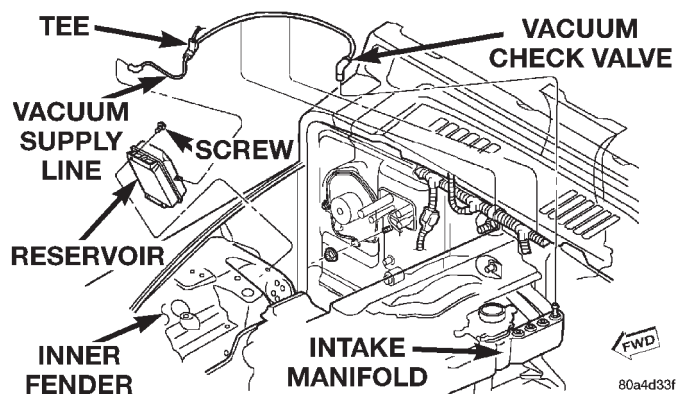

Fig. 35 Vacuum Reservoir Remove/Install
(1) Remove the battery and battery tray from the engine compartment. Refer to Group 8A - Battery for the procedures.
(2) Unplug the vacuum supply line connector from the vacuum reservoir (Fig. 35).